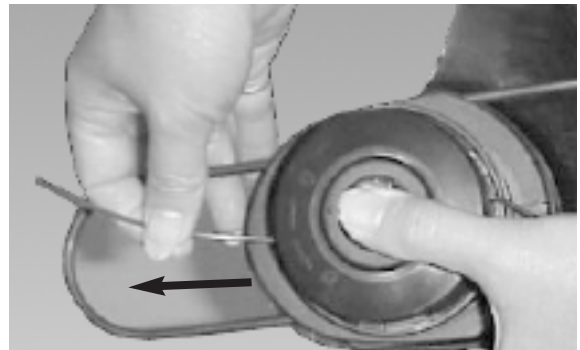

Fig. 8
1. Before starting the grass-trimmer for the first time, check that the nylon line touch or pass over the line-cutting blade. If they are not long enough, press the bump knob and, at the same time, pull the nylon line. (Fig. 8).